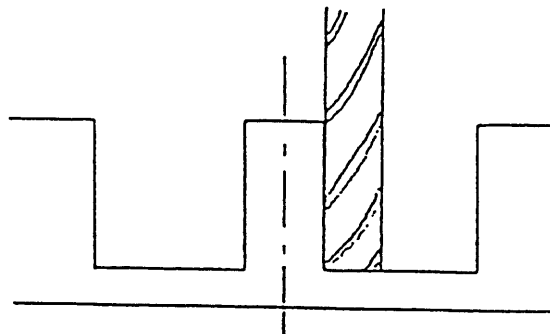

Fig. 7.2 J-\*
- (b) If the radius ( $J$ ) of the lower hole is  $-$ , a profile (Figure 7.2) leaving the radius ( $J$ ) is obtained.